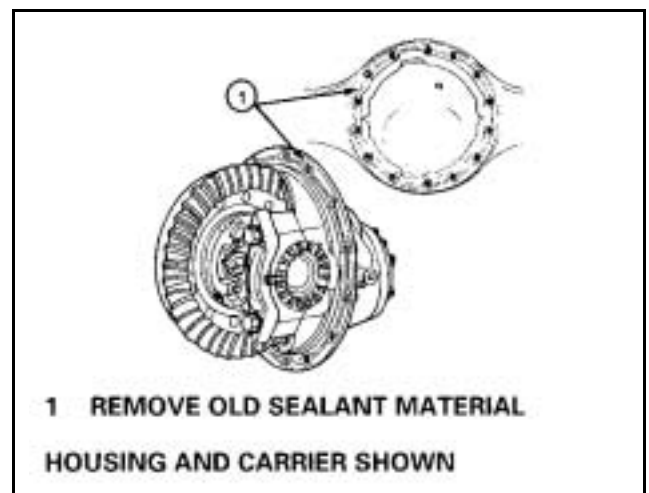

Figure 45
1. Remove all old gasket material from both surfaces. **Figure 45.**
2. Clean the surfaces where silicone gasket material will be applied. Remove all oil, grease, dirt and moisture without damaging the mating surfaces. **Figure 45.**